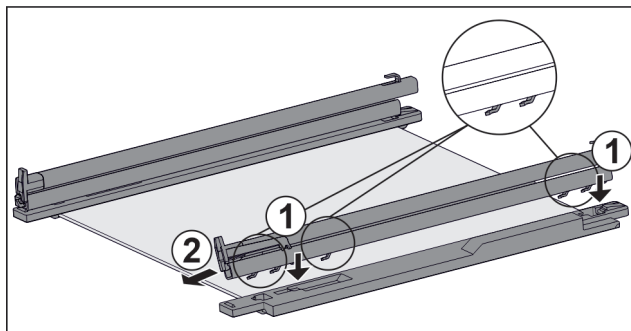

Fig. 60 Glass shelf with rails and retaining parts
- ▶ Place rail hooks onto the openings of the **left** retaining part. *Fig. 60 (1)*
- ▶ Push rail forwards. *Fig. 60 (2)*
- ▶ Place rail hooks onto the openings of the **right** retaining part. *Fig. 60 (1)*